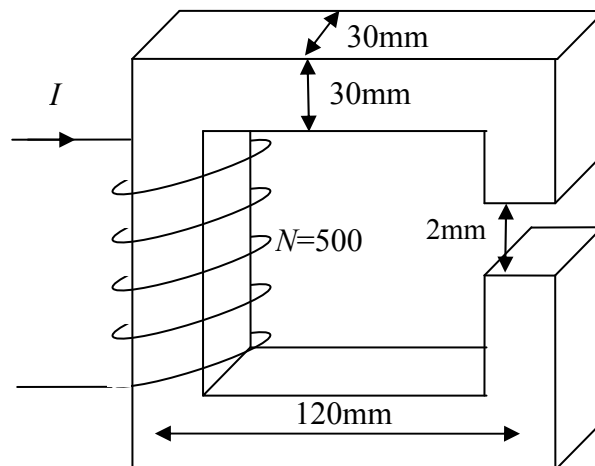

Figure 6.1
- (iv) Overall power-factor (7)
- Calculate the total kVA and power factor when the supermarket is closed. (3)
- d. Calculate the value of capacitance per phase, connected in a star configuration across the supply input to the supermarket, required to correct the overall power-factor to 0.98 lagging during **normal opening hours**. (5)
- a. Figure 6.1 shows an inductor which consists of a 500 turn coil wound on a rectangular iron core which contains an airgap of length 2mm. The mean length of each side of the iron core is 120mm and it has a cross-section of 30mm \times 30mm. The relative permeability of the iron is 800. Assume the airgap has the same cross-sectional area as the core and the permeability of air, $\mu_0 = 4 \times \pi \times 10^{-7}$ H/m.
- (i) Calculate the maximum current which can be passed through the coil if the flux density in the core is to be limited to a 1.4T. (4)
- (ii) Calculate the self inductance of the inductor. (1)
- b. The inductor of Figure 6.1 is now connected to a 100Hz sinusoidal AC supply. Calculate the following given that the resistance of the coil is 30 Ω :
- (i) The maximum rms voltage which can be applied to the coil if the peak flux density in the core is to remain below 1.4T (3)
- (ii) The average power dissipated in the coil for this maximum value of rms voltage (2)
- (iii) The peak energy stored in the inductor for this maximum value of rms voltage (1)
- c. The manufacturer of the inductor of Figure 6.1 wishes to modify the design to increase the maximum current which can be passed through the coil for a maximum core flux density of 1.4T. This will be achieved by increasing the airgap in the core. Calculate:
- (i) The length of the airgap required to achieve a maximum current to 8A (5)
- (ii) The new value of self inductance with this airgap. (2)
- (iii) The rms voltage required to achieve a flux density of 1.4T in the airgap if the resistance of the coil is neglected. (2)